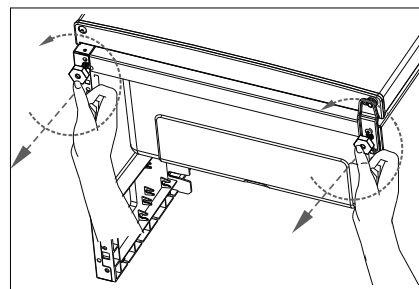

Fig. 1
- ▶ Turn the temperature control (1) briefly past position 1 to position ●. You will hear a click. The appliance switches off. You will hear a click. The appliance switches off. . Pull the mains plug (8) out of the mains socket.
- ▶ Remove the freezer drawers (9) and the glass shelves (2/3) as described in the following section.
- ▶ Remove both appliance feet (7) by turning anti-clockwise (Fig. 1).
- ▶ Keep the freezer door (4) closed.